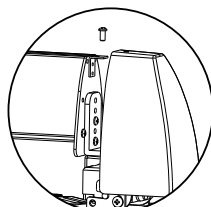

figure 8
8. Fasten all screws firmly and fit off the Top Cap (figure 8).